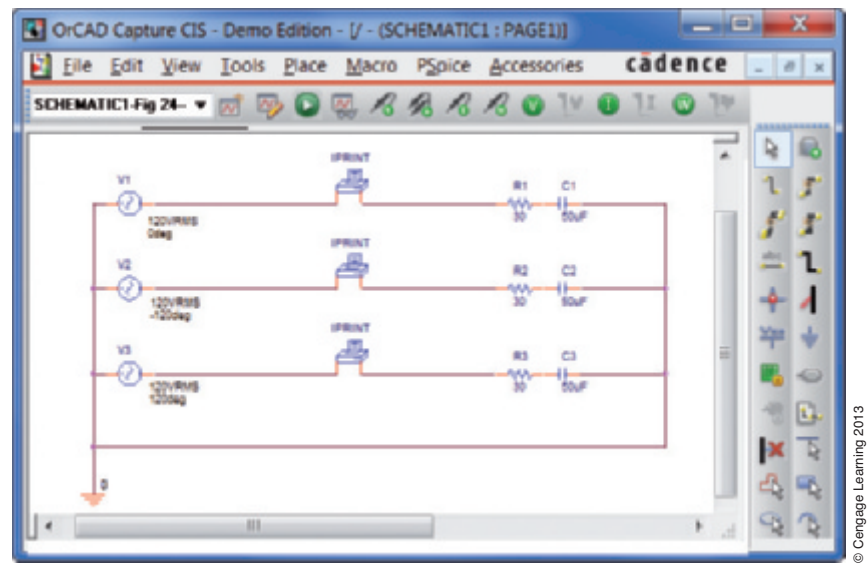

FIGURE 24–44
- To annotate the diagram as in Figure 24–44 (i.e., with points A, B, C, N, etc., identified), click the *Place text* icon on the tool palette, key in the text, and place as desired.